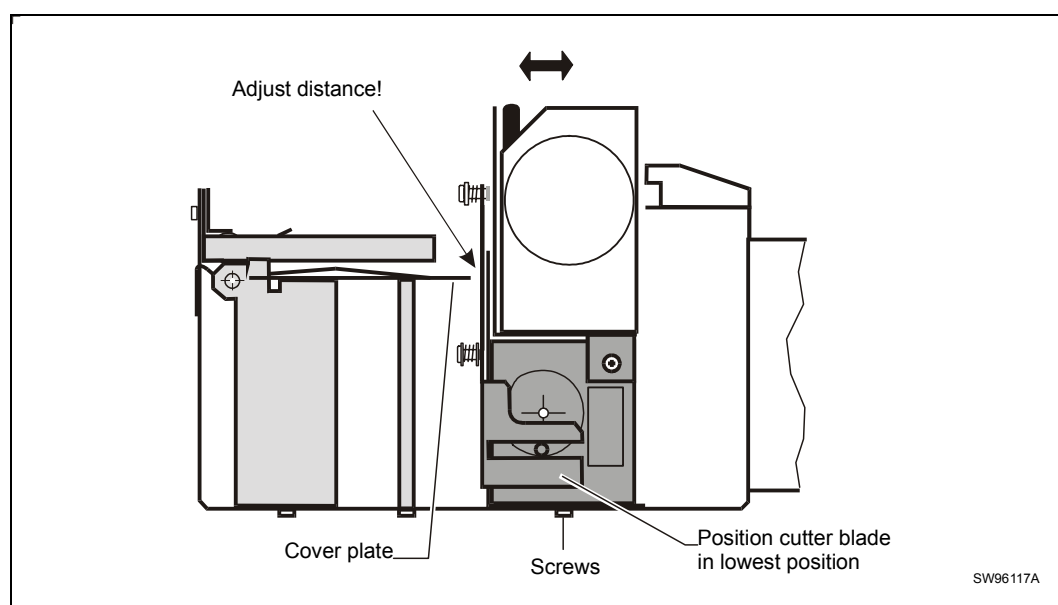

Figure 8. Adjusting the distance between presenter motor and cutting knife
3. Check that there is a 0.2-0.5 mm distance at any point between the rear edge of the presenter module and the cutting knife. If necessary, adjust by loosening the fixing screws of the print and cutter module assembly. A too big distance might cause the paper running down between the cutter and presenter modules. See Figure 8.